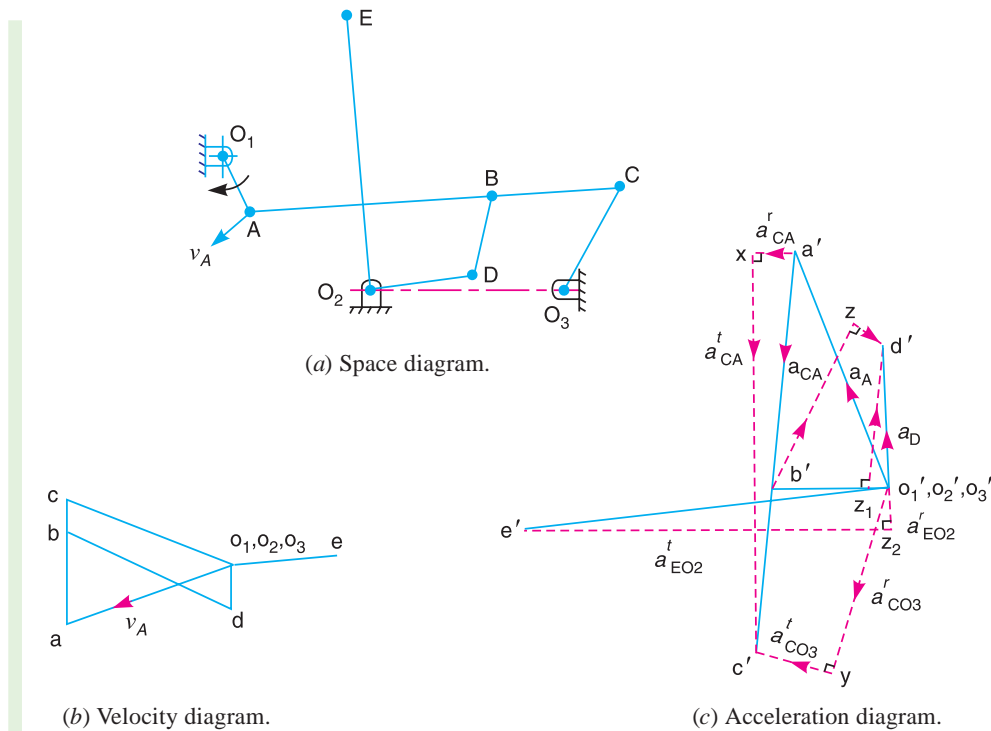

Fig. 8.19
First of all draw the space diagram, as shown in Fig. 8.19 (a), to some suitable scale. Now the velocity diagram, as shown in Fig. 8.19 (b), is drawn as discussed below:
Now the acceleration diagram, as shown in Fig. 8.19 (c), is drawn as discussed below:
**Note:** The point  $e'$  may also be obtained drawing  $a_{EO_2}^r$  and  $a_{EO_2}^t$  as shown in Fig. 8.19 (c).